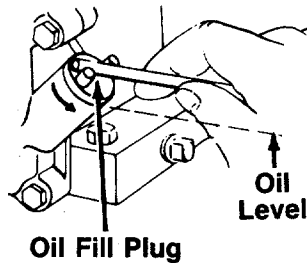

FIGURE 12.
- Fill engine with oil by removing oil fill plug. See figure 12. With engine level, fill engine with oil to point of overflowing. Capacity is 1¼ pints. Replace oil fill plug.